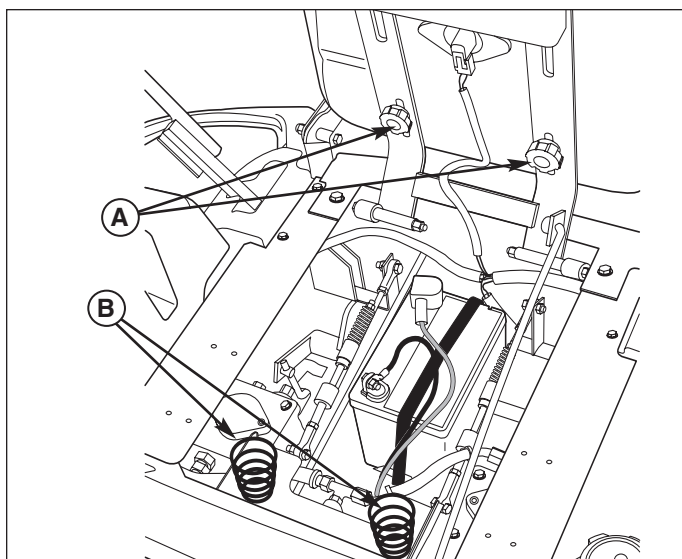

Figure 19. Seat Adjustment
See Figure 19. The seat can be adjusted forward and back. Remove the knobs (A), move the seat to the desired position, then reinstall and tighten the knobs.
Move the seat springs (B, Figure 19) into the front of the adjustment slot for lighter operators, and to the rear for heavier operator's.